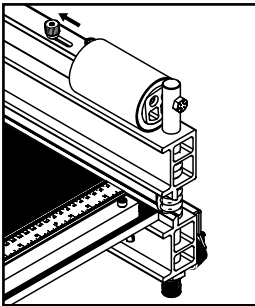

Figure 2 - Unlocked
**DISENGAGING THE SAFETY LOCK:** Grasp the leverage handle at the grip to control its motion. Loosen the safety lock's lock nut, then slide the safety lock all the way to the left to disengage (Figure 2). Tighten the safety lock's lock nut to hold it in the disengaged position. The leverage handle is spring-loaded and will rise automatically. In operation, keep a hand on the grip of the leverage handle to keep it under control.